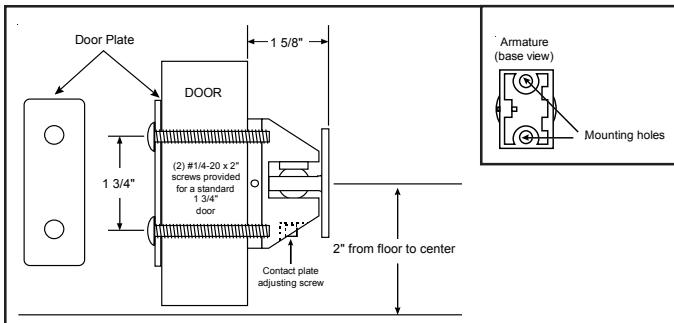

Figure 5. Thru-Bolt Mounting
1. Using a 5/32" Allen wrench, turn the contact plate adjusting screw (Figures 5 and 6) counterclockwise to loosen the contact plate.
- a. **Thru-bolt mounting (Figure 5).** Center punch the two holes (at the points marked in step 3) and drill 5/16" diameter through the door. Distance between the center points should equal 1 3/4".
Secure the armature assembly, with the contact plate adjust screw facing down, to the door as shown in Figure 5 using (2) #1/4-20 x 2" screws (supplied).
**NOTE:** For 2" doors, use (2) 1/4-20 x 2-1/4" bolts.